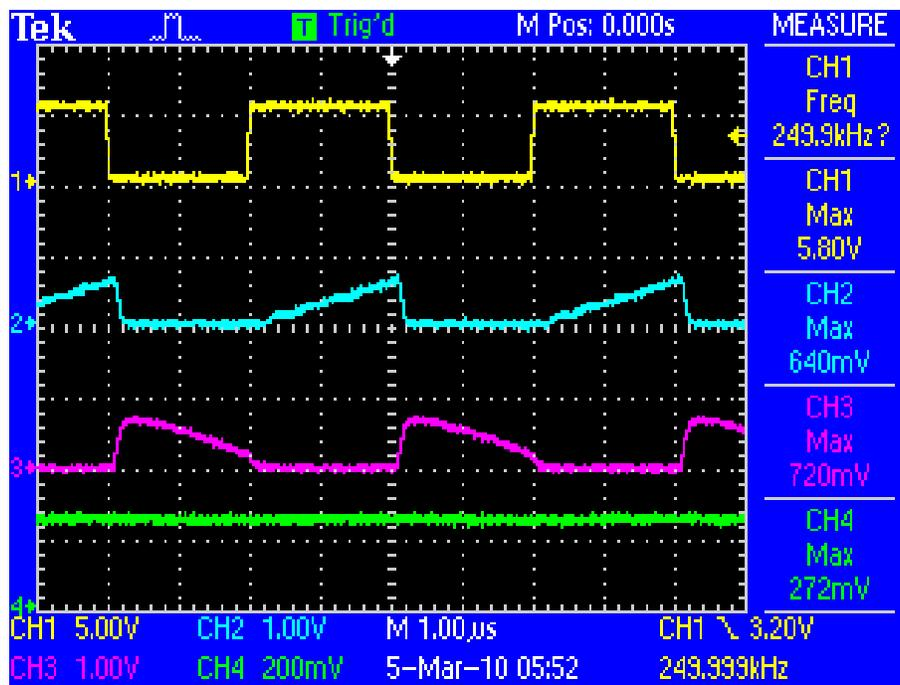

Figure 5. Oscilloscope Display
8. Adjust the level indicator for ALL channels to properly view each channel as shown in Figure 5.
The oscilloscope should display waveforms similar to Figure 5.
Channel 1 should output a signal with a peak voltage of 5 V and have similar slope as shown in Figure 5.
Channel 2 should output a signal with a peak voltage of 500 to 800 mV and have similar slope as shown in Figure 5.
Channel 3 should output a signal with a peak voltage of 500 to 800 mV and have similar slope as shown in Figure 5.
Channel 4 should output a signal with a peak voltage of 250 to 350 mV and have similar slope as shown in Figure 5.